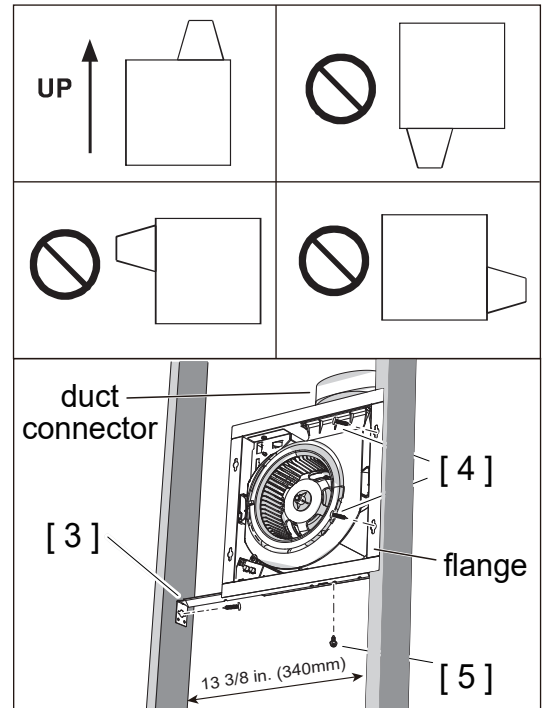

Fig 7
1. Insert Bracket [3] to the slot at the counter side of duct as figure shows. (Fig 7)
2. Position and hold the Fan Body [1] to the stud as figure shows. Make sure the flange of housing is flush to the surface of stud. Make sure the duct connector is facing upward. (Fig 7)
3. Secure the flange which is flush to the stud with Long Screws [4] as figure shows. (Fig 7)
4. Secure the Bracket [3] to stud with one Long Screw [4]. (Fig 7)
5. Install one Short Screw [5] to the hole of the Bracket [3] and secure. The hole should be close to the center of the slot. (Fig 7)